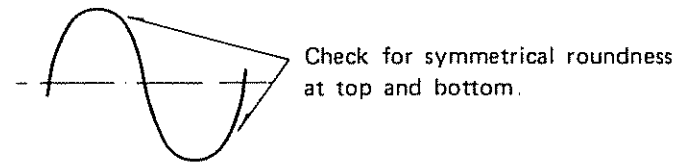
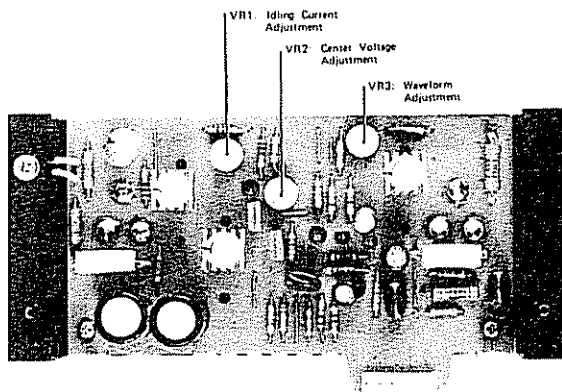

Figure 4. Output Waveform
Figure 5. MA Circuit Board
3. Adjust the VR3 as shown in Figure 5 to achieve a waveform which is symmetrically rounded like that shown in Figure 4